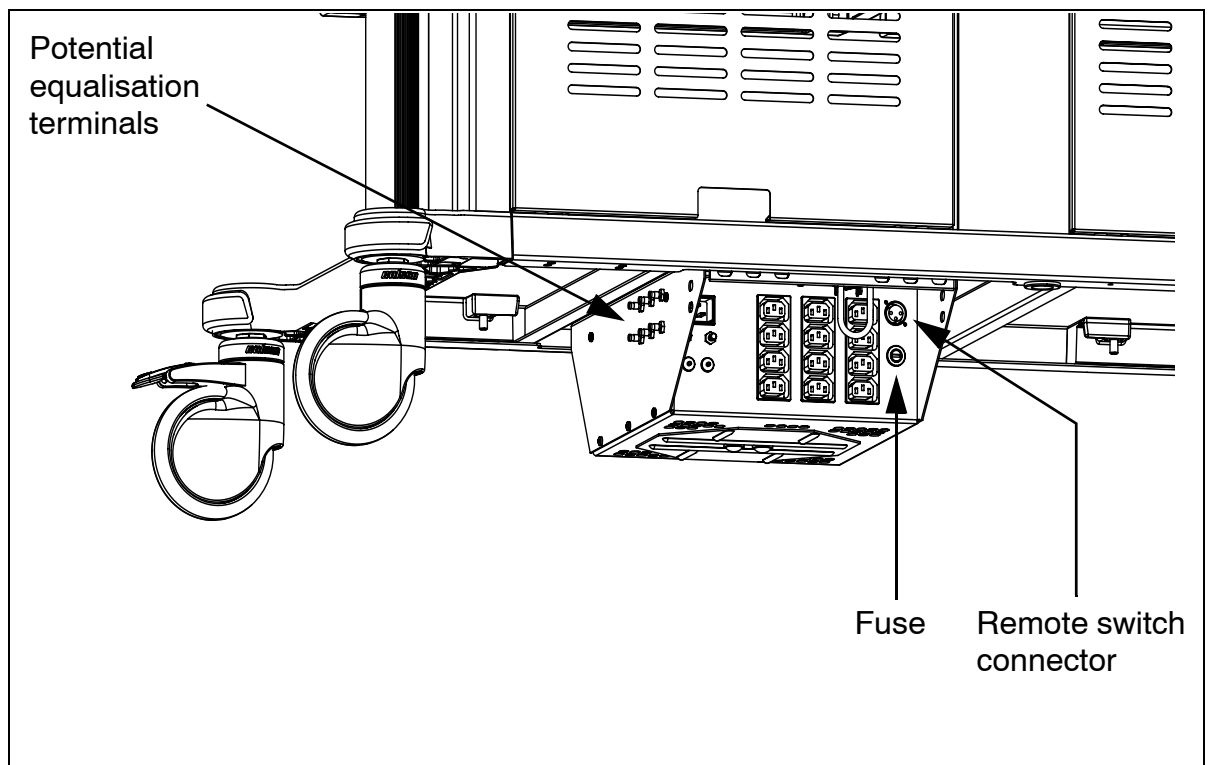

**Figure 4.3**
- If the fuse holder cap on the transformer is not fitted correctly, there is a possibility that the fuse holder will overheat. When replacing the fuse, ensure the fuse holder cap (Figure 4.3) is tightened using a 6mm to 8mm flat bladed screwdriver. The recommended tightening torque is 0.5Nm.
1. The mobile workstation is supplied with the remote switch connected to the separation transformer and no assembly is required. However, check the connection (see Figure 4.3) is secure before completing full installation.